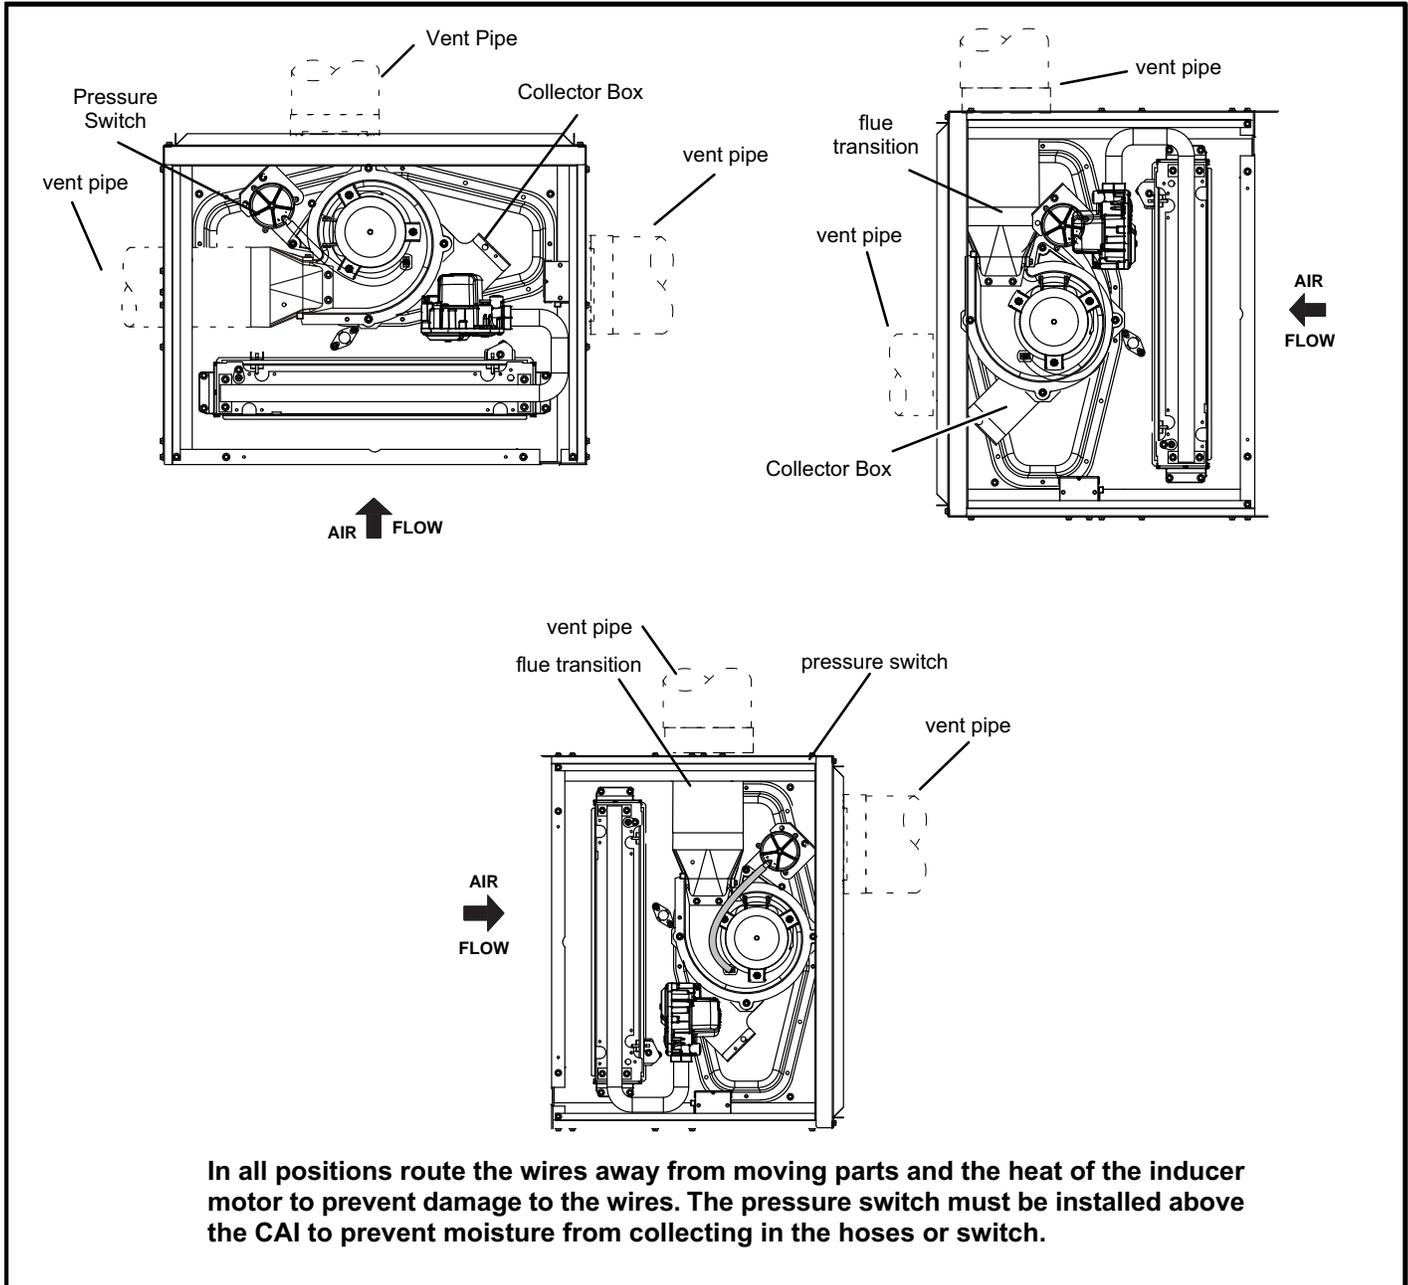

FIGURE 13
The ML180UH(X) furnace can vent in multiple positions. See figure 13.